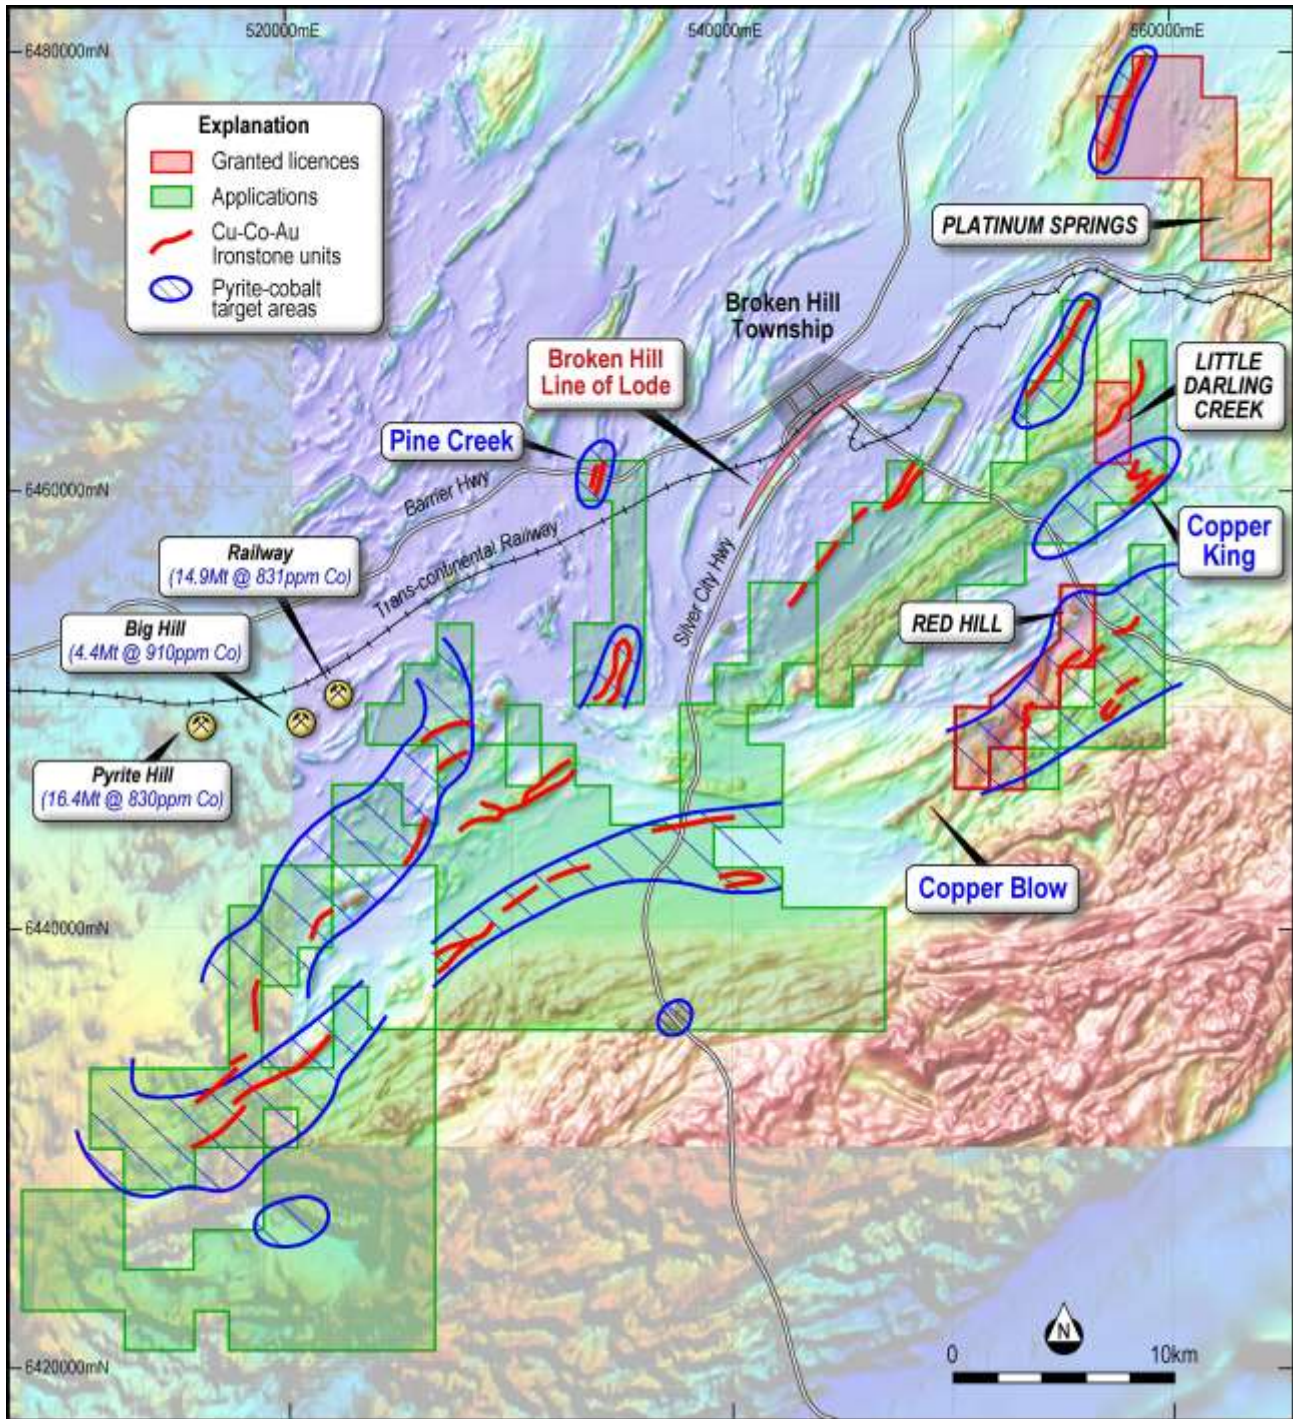

Figure 1. Impact's exploration licences in the Broken Hill area showing priority cobalt targets
Whilst Impact Minerals Limited (ASX:IPT) remains firmly focussed on the discovery of high grade nickel-copper-platinum group metal (PGM) cobalt mineralisation at its 100% owned Broken Hill Project in New South Wales, a recent review highlighted the significant potential for two styles of stand alone cobalt deposits (Figure 1 and see announcement 3rd March 2017).
1. Thackaringa style pyrite-cobalt deposits similar to the Thackaringa Cobalt deposits now being considered for development (three deposits totalling 33 Mt at 0.08% cobalt, Figure 1); and
The review has confirmed that there has been little systematic exploration for either of these two deposit styles throughout Impact's significant tenement holding in the Broken Hill region which cover some 517 square kilometres and about 100 kilometres of strike extent south of the Broken Hill Mine (Figure 1).
In particular it is evident that very few soil, rock chip and drill samples have been assayed for gold even though it has long been known to be associated with both styles of mineralisation. For example at the Copper Blow Prospect (near to but **not on** Impact's tenements, Figure 1) historic drilling returned intercepts of up to 11.8 metres at 6.7% copper, 1.9 g/t gold and 13 g/t silver in ironstone.
The Pine Creek Prospect is located 10 km west of Broken Hill and occurs in the same rocks that host the Thackaringa deposits some 30 km to the south (Figure 1). Exploration in the 1980's identified two north-south trending units of felsic gneiss with extensive disseminated pyrite.
The Copper King area is a series of historic copper occurrences and workings located in the east of Impact's tenements (Figure 1). Previous work has identified an anomalous copper-cobalt-gold trend up to 3.5 kilometres long which is in part defined by variably magnetic ironstone units. However the focus was mainly on copper exploration and assays for both gold and cobalt are minimal.
Magnetic ironstones that are potential hosts for cobalt-copper-gold mineralisation are identifiable in the regional airborne magnetic data. An interpretation of this data and regional geological maps shows that there are many strike kilometres of prospective ironstones within Impact's ground (Figure 1). In addition there are large tracts of ground that may contain the same rocks prospective for the Thackaringa style of pyrite-cobalt(-gold) deposits (Figure 1).